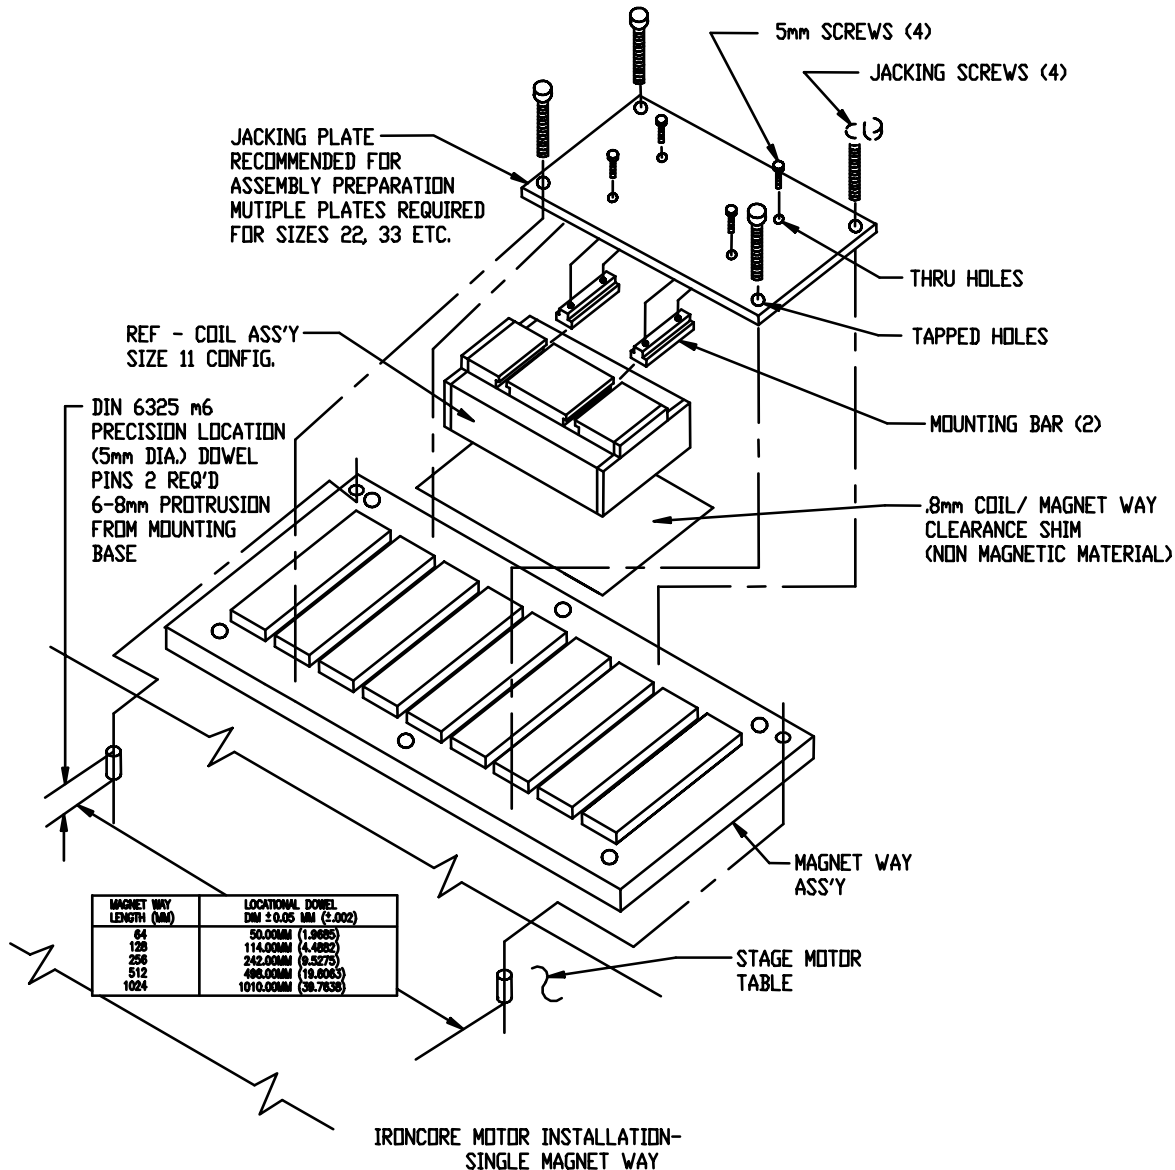

Figure 2. Single Magnet Plate Method.
Single Magnet Plate Method (Figure 2)
3. Attach the jacking plate(s) to the coil assembly as shown in figure 1, using M5 screws. Extend jacking screws (4 per plate) completely through the jacking plate(s), see figure 2.